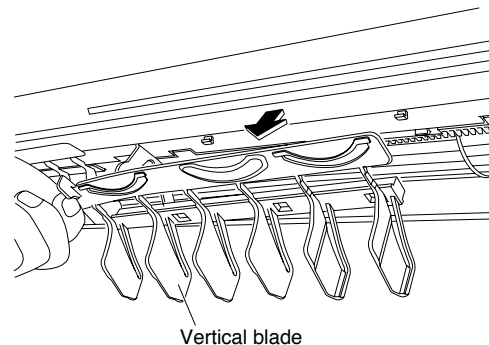

Fig. 16
- (3) Remove the vertical blade. (Fig.16)